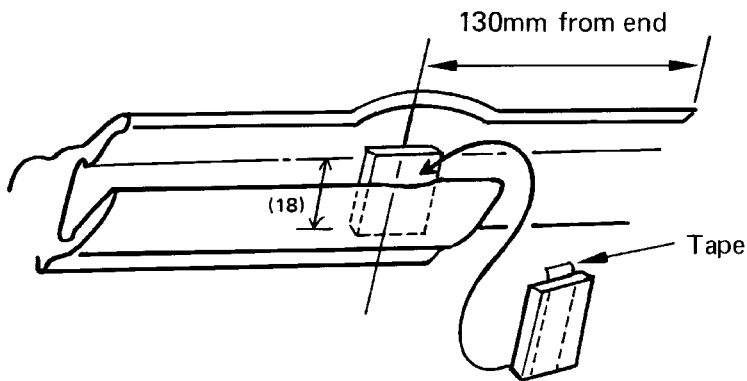

FIGURE 3
2. Remove the cover strip from the double-sided tape on the plastic spacer (Figure 3).
3. Locate the center of the plastic piece about 130mm (approximately 5-1/8") from the rear end of the molding (Figure 3).